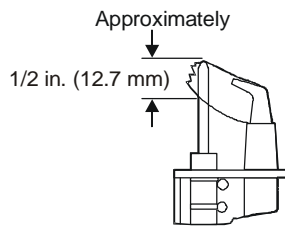

Figure 5: Flame Position
- A flame approximately 1/2 in. (12.7 mm) high must surround the thermocouple tip (see Figure 5).